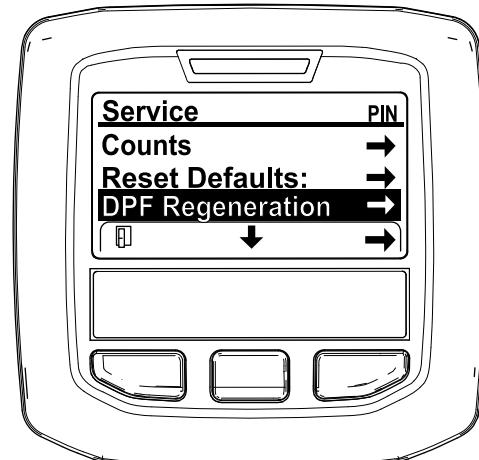

Figure 46
- In the SERVICE MENU, press the middle button until the DPF REGENERATION options displays, and press the right button to select the DPF REGENERATION option (Figure 46).